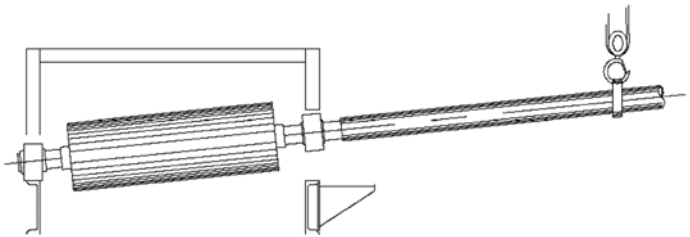

Fig. 2
2. Slide pipes onto rotor drive side and tail pulley shaft ends. (See Fig 2.)
4. Lifting the tail pulley and rotor with the pipes, slide the belt into place. See Fig 2.
1. Support the shaft as shown. (See Figure 2 on next page)
3. Loosen the bearing housing mounting bolts (27) and completely remove the setscrew in the bearing lock nut.
4. Remove the bearing lock nut. Strike the bearing adapter nut with a brass hammer. This should loosen the bearing (16) so that it easily pulls off the shaft.